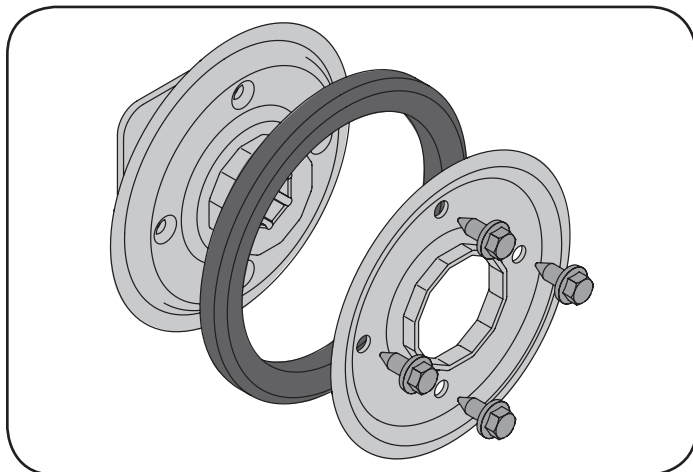

Figure 75
- Remove the four screws which secure the friction wheel's side plates together. See Figure 75.